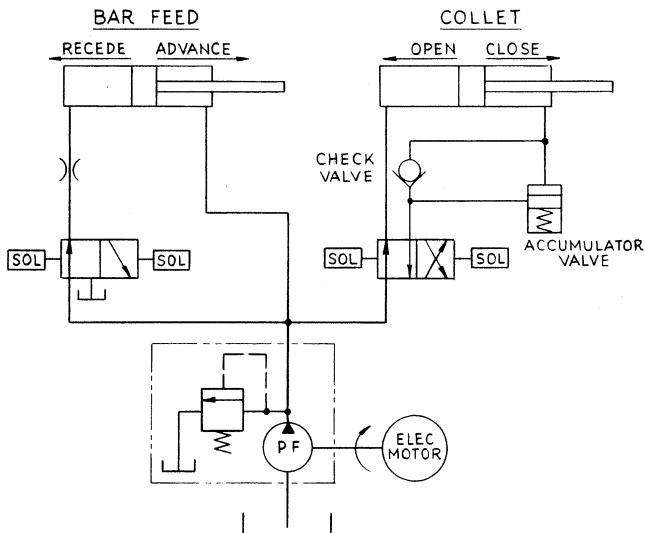
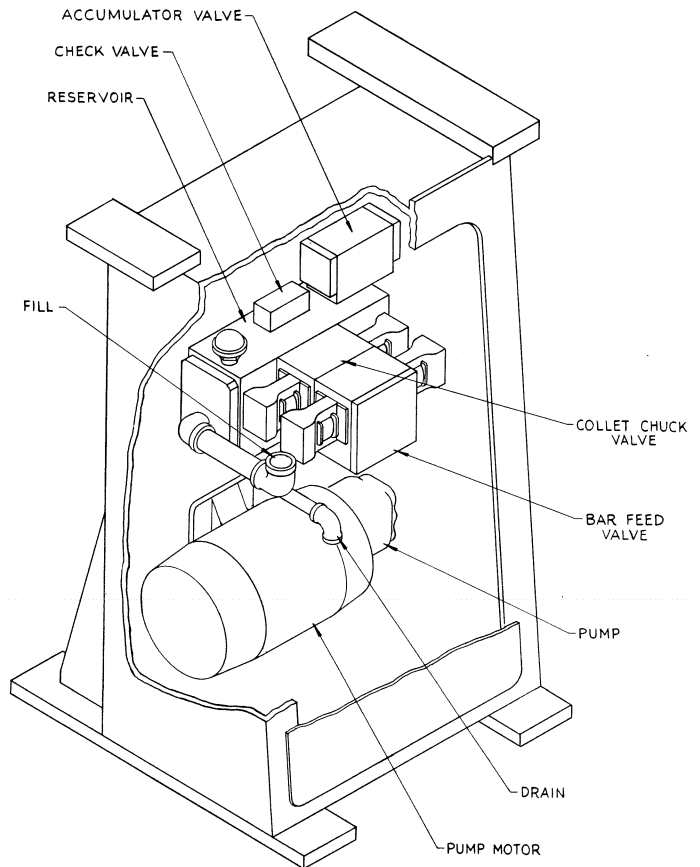

FIG. 13
FIG. 14
2. Figure 13 is the collet chuck and bar feed hydraulic circuit. Figure 14 shows the location of components in the power unit.
5. Collet closing pressure is applied only until the finger rollers pass beyond the top of the wedge incline. The check valve and accumulator valve (Figures 13 and 14), relieve the pressure on the wedge shoes after the collet is closed.